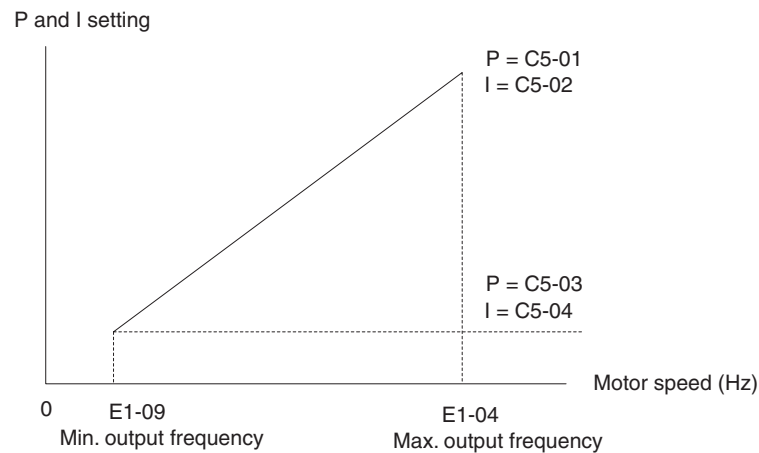

Fig 6.86 Speed Control Gain Integral Time Adjustment for V/f Control with PG
When using V/f control with PG, set the proportional gain (P) and the integral time (I) at E1-09 (minimum output frequency) and E1-04 (maximum output frequency). *Fig 6.86 Speed Control Gain Integral Time Adjustment for V/f Control with PG* shows how the proportional gain and integral time change in linear fashion based on the speed.